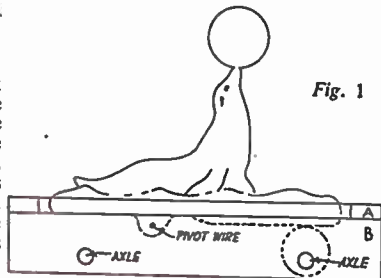

Fig. 1
Piece (A) and the two sides (B) are cut from 1/4 in. wood and glued together. The Seal is 1/4 in. thick and is pivoted on the wire which goes through the sides. The wheels are glued to axles cut from 1/4 in. diameter round rod and the cam is situated on the front axle in such a position as to give movement to the Seal. Fig. 1 shows how the cam operates to give this movement.